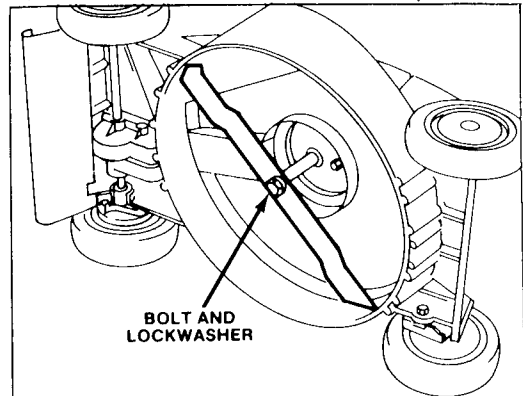

Figure 19
3. Tip mower on its left side (Fig. 19).
3. Tip mower on its left side (Fig. 19). Avoid rotating blade. Starting problems may result.
5. **REMOVING BLADE** — Grasp end of blade using a rag or thickly padded glove. Remove lockwasher, blade bolt, and blade (Fig. 19).